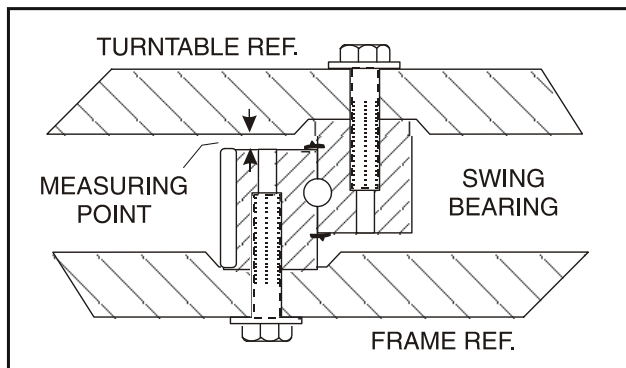

Figure 3-28. Swing Bearing Tolerance Measuring Point
1. From the underside of the machine, at rear center, with the main boom fully elevated and fully retracted, using a magnetic base dial indicator, measure and record the distance between the swing bearing and turntable. See Figure 3-28., Swing Bearing Tolerance Measuring Point.
2. At the same point, with the main boom at horizontal and fully extended, using a magnetic base dial indicator, measure and record the distance between the swing bearing and turntable. See Figure 3-28., Swing Bearing Tolerance Measuring Point.